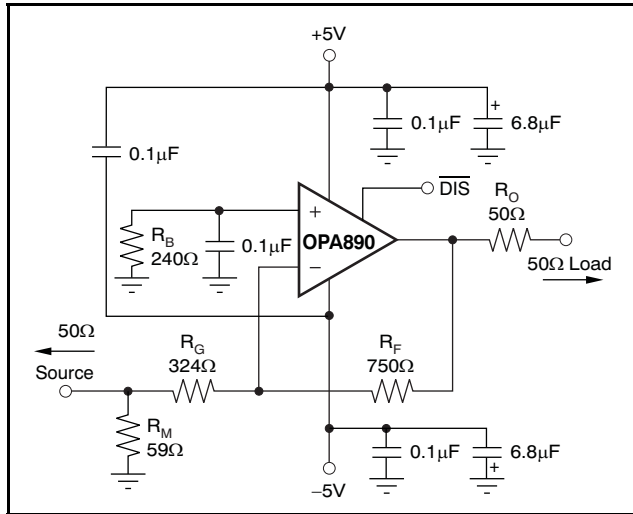

Figure 51. Gain of  $-2V/V$  Example Circuit
The OPA890 is a general-purpose, wideband voltage-feedback op amp; therefore, all of the familiar op amp application circuits are available to the designer. Inverting operation is one of the more common requirements and offers several performance benefits. Figure 51 shows a typical inverting configuration where the I/O impedances and signal gain from Figure 46 are retained in an inverting circuit configuration.
In the inverting configuration, three key design considerations must be noted. First, the gain resistor ( $R_G$ ) becomes part of the signal channel input impedance. If input impedance matching is desired (which is beneficial whenever the signal is coupled through a cable, twisted-pair, long PCB trace, or other transmission line conductor),  $R_G$  may be set equal to the required termination value and  $R_F$  adjusted to give the desired gain. This approach is the simplest, and results in optimum bandwidth and noise performance. However, at low inverting gains, the resultant feedback resistor value can present a significant load to the amplifier output. For an inverting gain of  $-2\text{V/V}$ , setting  $R_G$  to  $50\Omega$  for input matching eliminates the need for  $R_M$  but requires a  $100\Omega$  feedback resistor. This option has the interesting advantage that the noise gain becomes equal to  $2\text{V/V}$  for a  $50\Omega$  source impedance—the same as the noninverting circuits considered in the previous section. The amplifier output, however, now sees the  $100\Omega$  feedback resistor in parallel with the external load. In general, the feedback resistor should be limited to a range of  $200\Omega$  to  $1.5\text{k}\Omega$ . In this case, it is preferable to increase both the  $R_F$  and  $R_G$  values, as shown in Figure 51, and then achieve the input matching impedance with a third resistor ( $R_M$ ) to ground. The total input impedance becomes the parallel combination of  $R_G$  and  $R_M$ .
The second major consideration, touched on in the previous paragraph, is that the signal source impedance becomes part of the noise gain equation and influences the bandwidth. For the example in Figure 51, the  $R_M$  value combines in parallel with the external  $50\Omega$  source impedance, yielding an effective driving impedance of  $50\Omega \parallel 59\Omega = 27\Omega$ . This impedance is added in series with  $R_G$  for calculating the noise gain (NG). The resulting NG is  $3.14V/V$  for Figure 51, as opposed to only 2 if  $R_M$  could be eliminated as discussed previously. The bandwidth is therefore slightly lower for the gain of  $-2V/V$  circuit of Figure 51 than for the gain of  $+2V/V$  circuit of Figure 46.
The third important consideration in inverting amplifier design is setting the bias current cancellation resistor on the noninverting input ( $R_B$ ). If this resistor is set equal to the total dc resistance looking out of the inverting node, the output dc error (because of the input bias currents) is reduced to  $(\text{Input Offset Current}) \times R_F$ . If the  $50\Omega$  source impedance is dc-coupled in Figure 51, the total resistance to ground on the inverting input is  $351\Omega$ . Combining this resistance in parallel with the feedback resistor gives the value of  $R_B = 240\Omega$  used in this example. To reduce the additional high-frequency noise introduced by this resistor, it is sometimes bypassed with a capacitor. As long as  $R_B < 350\Omega$ , a capacitor is not required because the total noise contribution of all other terms is less than that of the op amp input noise voltage. As a minimum, the OPA890 requires an  $R_B$  value of  $50\Omega$  to damp out parasitic-induced peaking—a direct short to ground on the noninverting input runs the risk of a very high-frequency instability in the input stage.
Evaluating these two equations for the OPA890 circuit and component values (see Figure 46) gives a total output spot noise voltage of 17.4nV/√Hz and a total equivalent input spot noise voltage of 8.7nV/√Hz. This total includes the noise added by the bias current cancellation resistor (175Ω) on the noninverting input. This total input-referred spot noise voltage is only slightly higher than the 8nV/√Hz specification for the op amp voltage noise alone. This result will be the case, as long as the impedances appearing at each op amp input are limited to the previously recommend maximum value of 350Ω. Keeping both (R\_F || R\_G) and the noninverting input source impedance less than 350Ω satisfies both noise and frequency response flatness considerations. Because the resistor-induced noise is relatively negligible, additional capacitive decoupling across the bias current cancellation resistor (R\_B) for the inverting op amp configuration of Figure 51 is not required.